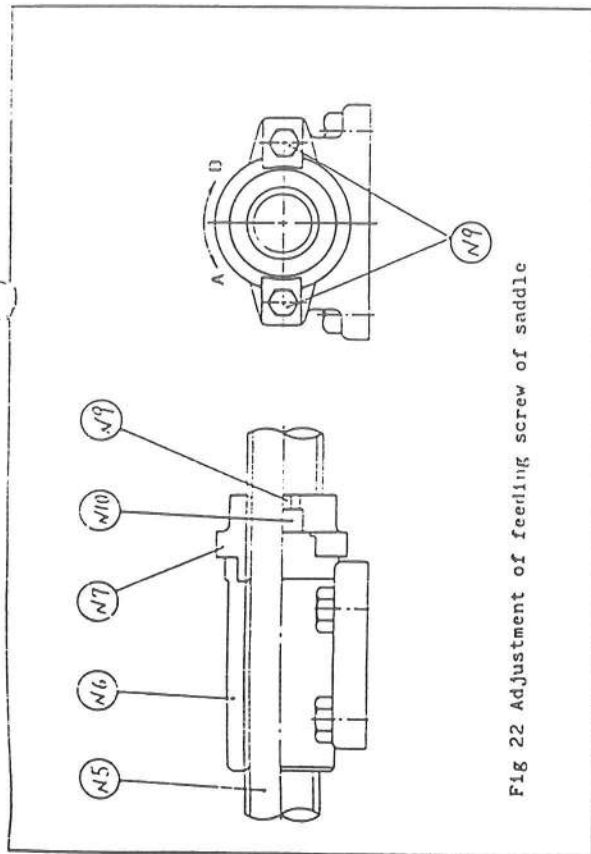
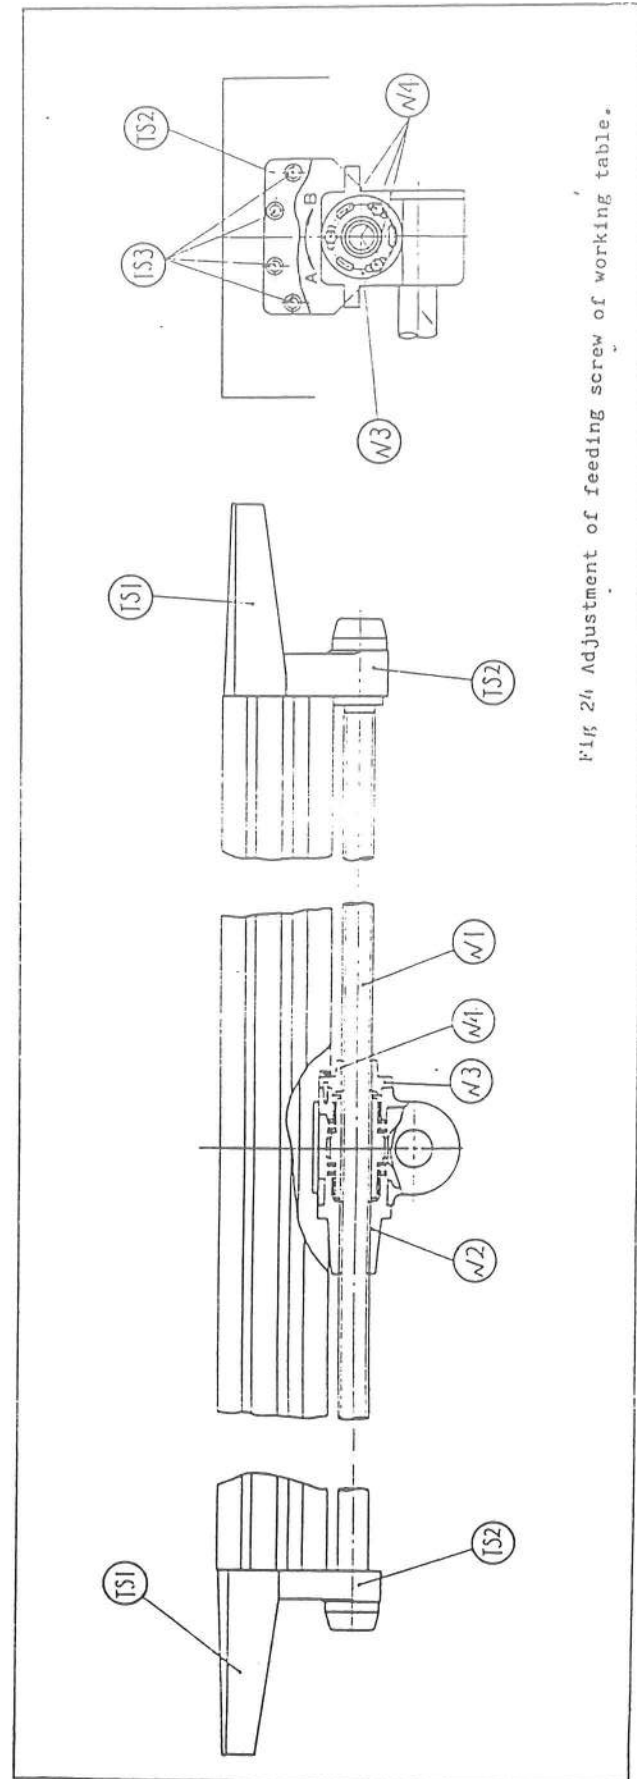

Fig 22 Adjustment of feeding screw of saddle
Fig 24 Adjustment of feeding screw of working table.
8-7 Adjustment of all feed lead screws (Fig 22, Fig 24)
8-7-1 Adjustment of feed lead screw of table (Fig 24)
4. Screw the adjustable nuts (N3) toward "B" direction, and make the feed lead screw only for rotation without looseness see Fig 24.
8-7-2 Adjustment of feed lead screw of saddle (Fig 22)